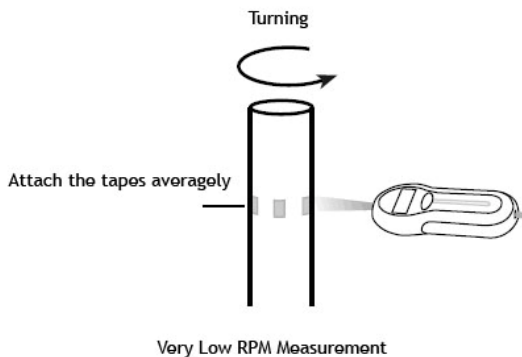

Figure 5
5. To perform very low RPM measurement (<60RPM), we suggest the user to attach more reflective tapes averagely. Then divide the reading by the number of reflective tapes to get the actual RPM of the object (Figure 5)